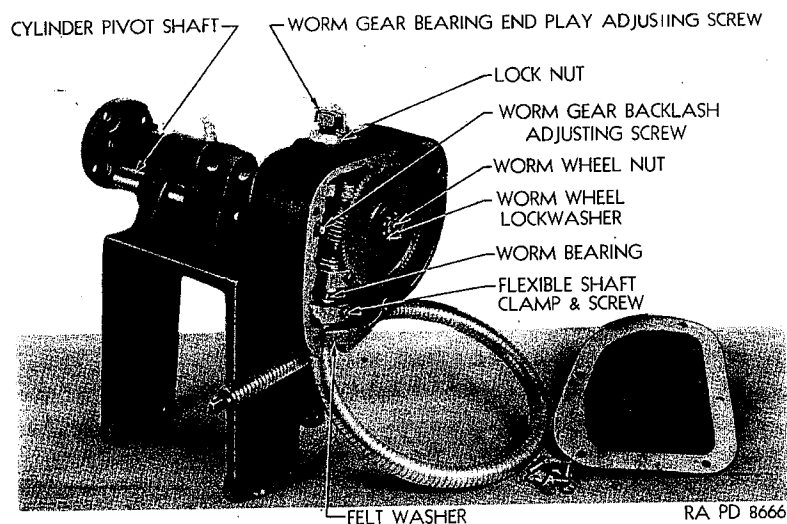

Figure 78—Mounting Bracket Assembly, Gyro-Stabilizer
if free motion exists. Backlash may be taken up by loosening worm wheel lock nut and washer, Figure 78, and turning backlash adjusting screw. Adjust for  $\frac{1}{32}$ " maximum movement between worm gear and worm wheel. Use care not to over-tighten, and be sure to tighten lock nut and washer when adjustment is completed.
h. Check for end play in worm bracket and adjust by loosening lock nut on top of gear housing (Fig. 78) and turning head of screw clockwise. Retighten lock nut.
(3) Slide the piston rod pivot pin out through the piston rod end.
(4) Loosen the flexible shaft clamp screw on the flexible shaft, Figure 78, and remove shaft.
(5) Remove four bolts holding mounting bracket assembly to gun mount. Lift mounting bracket up and toward the breech of the gun to remove.
(6) To reinstall mounting bracket, lift assembly up and over breech of gun.
- (2) Loosen the flexible shaft clamp on the worm bracket and remove the flexible shaft (Fig. 78).
- (3) Loosen the flexible shaft clamp on the flexible shaft support bracket.
- (4) Remove the flexible shaft.
- (5) The replacement of the flexible shaft is the reverse of the preceding steps.